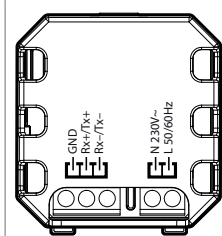

Fig. 4
- 对230Vac供电类型见Fig.4；
- for 230 models Vac see Fig. 4;